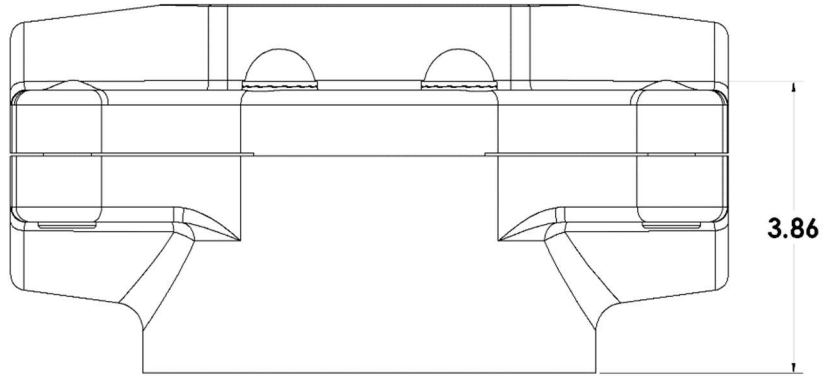

FIGURE 3. OUTER BOLTS
- (1) 3/8" bolts for 2G0M6, 7/16" bolts for 2G0M7, 1/2" bolts for 2G0M8.
- (2) mount bolt lengths to be determined based on spacer thickness (see figures 3 and 4 for details)
- (3) washers to be added on each side of the bulkhead
⁽²⁾ mount bolt lengths to be determined based on spacer thickness (see figures 3 and 4 for details)